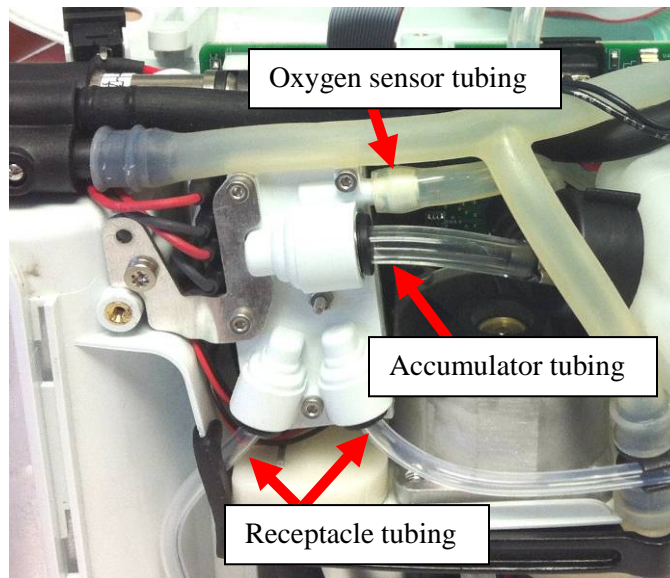

Figure 12: Product manifold tubing
5. Locate the four tubes connected to the product manifold (Figure 12). One tube, the oxygen sensor tube, is connected to the manifold by a barb and can be removed using a small flathead screw driver to slide the tubing off of the barb. The other three tubes are connected by quick connect fittings and can be removed by pressing inward on the retaining ring while pulling gently on the tubing. It is recommended that the bottom two tubes, the receptacle tubes, be removed first, so that the manifold can be pulled away from the chassis to allow more room to remove the remaining accumulator tubing as the barbs on the accumulator cap are very delicate and can easily be broken during removal of the tubing.
4. Reinstall all four tubes, starting with the accumulator tubing (Figure 12). Pull on the tubing to ensure the tubes have been correctly inserted into the manifold and do not pull out of the connectors.